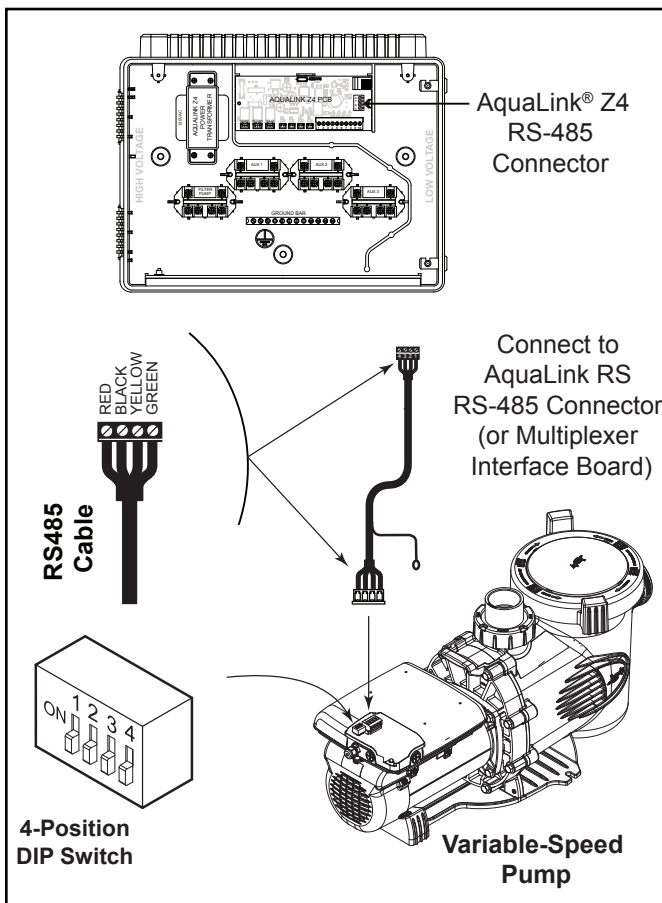

Figure 5B. Wiring AquaLink Z4 to ePump, Regal Beloit Motor to ePump, Regal Beloit Motor
**Note:** The AquaLink Z4 Controller works with a single variable-speed pump, so the dip switch settings will use the factory default settings of OFF for all four switches. See Figure 5B.